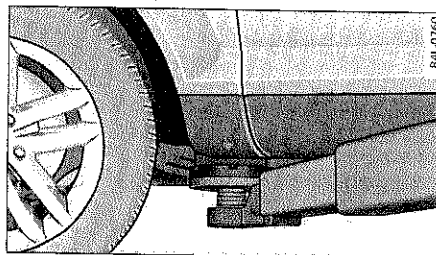
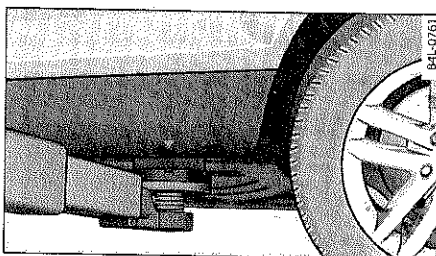

Fig. 325 Front lifting point
Fig. 326 Rear lifting point
- Locate lifting points ⇒ fig. 325 ⇒ fig. 326.